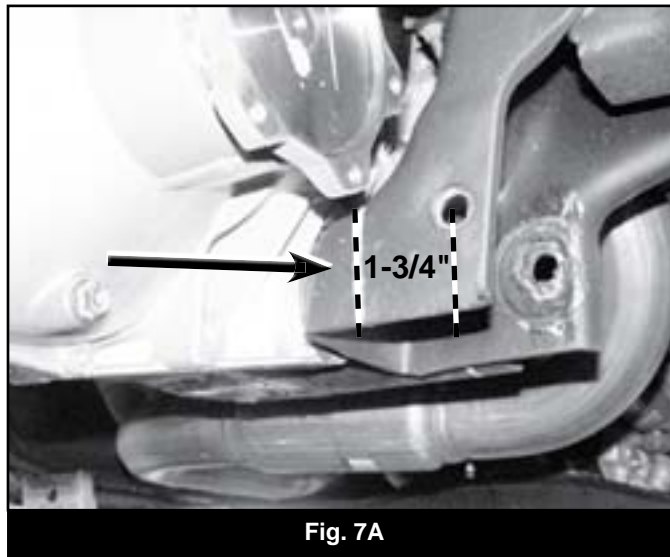

Fig. 7A
24. The driver's side rear differential mount must be removed. Measure from the center of the OE control arm mounting hole inward 1-3/4" and make a vertical cut line around the entire pocket. (Fig 7A, 7B). Using a sawzall, die grinder or plasma cutter, remove the differential mount from the frame. Note: Always check for fuel lines and/or electrical wires before cutting. Undercoating is flammable. Keep a fire extinguisher close by for safety.